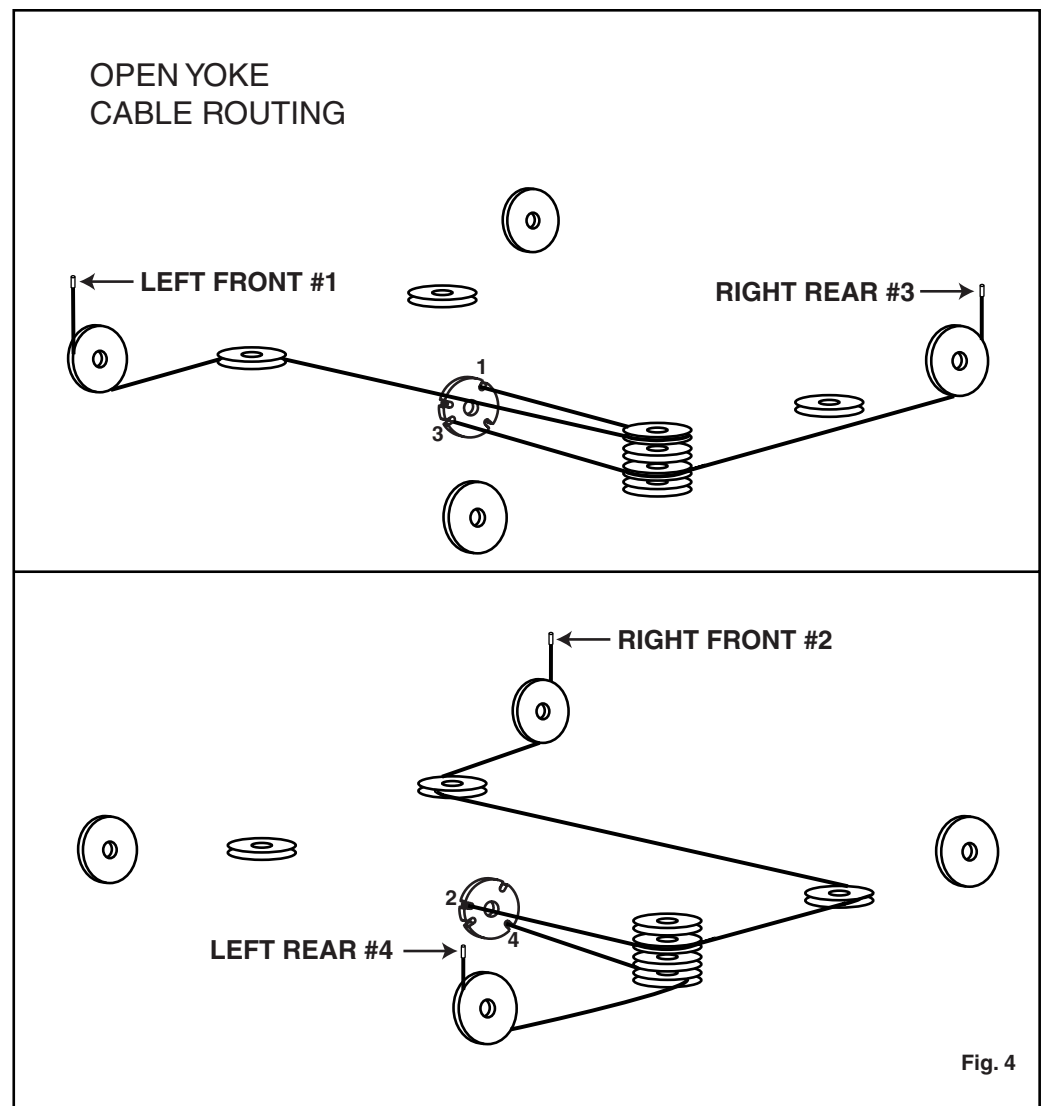

Fig. 4
- F. **IMPORTANT** Be sure cable is isolated in the sheave groove. Attach each cable to column top plate with washer, nut, and jam nut, Fig. 9. Install rubber sheave guard on each yoke end. Roping diagram shows a view of completed roping, Fig. 4.